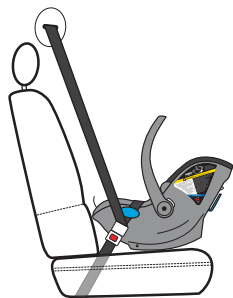

Figure 78
If you are still unable to shift Carrier so that blue Reference Line is parallel to the ground, remove the vehicle shoulder belt from around the back of the Carrier and let it retract into a position against the front of the vehicle seat back as shown in **Figure 78** and shift the Carrier so that the blue Reference Line is parallel to the ground, or move to another seating position.
- DO NOT wrap shoulder belt around back of Carrier. Let the shoulder belt retract into a position against the front of the vehicle seat back as shown in **Figure 78**.